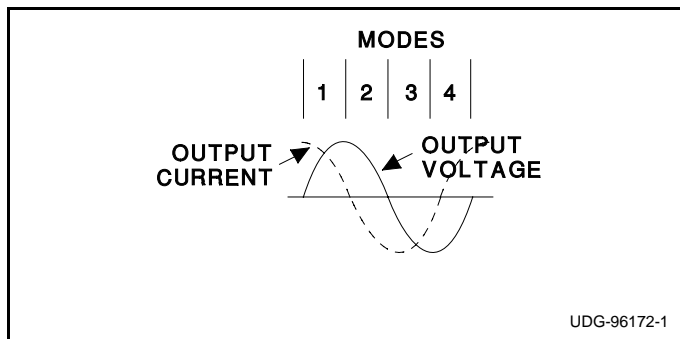
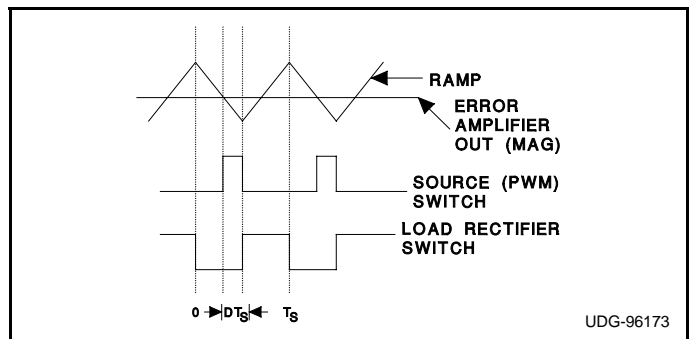
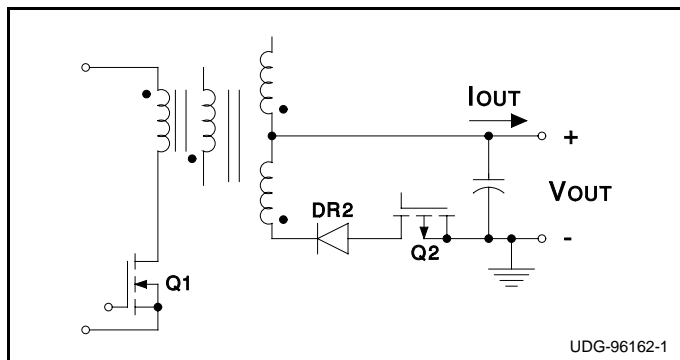

Figure 2. Operating Modes
Figure 3. Circuit Waveforms
Figure 4a. Mode 1
this pin is PWM during mode 4 (Figure 2) when the reference signal is negative and power is being returned to the input. This pin functions as a synchronous rectifier output during mode 1 with positive reference signal and positive power transfer. This output is logically inverted to provide the correct polarity drive signal for a p-channel switch.
**GD3:** Output driver that controls the n-channel secondary side switch in the flyback converter. The output signal on this pin is PWM during mode 2 (Figure 2) when the reference signal is positive and power is being returned to the input. This pin functions as a synchronous rectifier output during mode 3 with a negative reference signal and positive power transfer.
Different operating modes of the converter are depicted in Table 2. Figure 2 shows the output voltage and current waveforms for a purely capacitive load and identifies the four operating modes. Figure 3 shows the PWM waveforms for the circuit and Figures 4a - 4d show the equivalent circuits under the operating modes. The addition of Q2, Q3 and primary diode facilitates true four quadrant